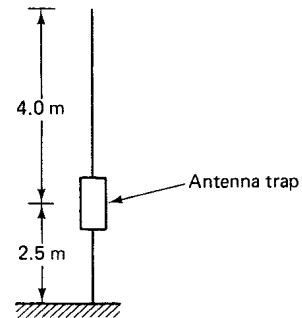

Fig. 6-27
**6.14** Determine the optimum frequencies of operation for the antenna shown as Fig. 6-27. Assume a velocity factor of 1.0.
Given: Antenna shown in Fig. 6-27.
The antenna shown in Fig. 6-27 is a quarter-wave Marconi antenna. The antenna is cut for two frequencies, one whose wavelength is four times the length between the feed point and the antenna trap, and the other four times the total length of the antenna.